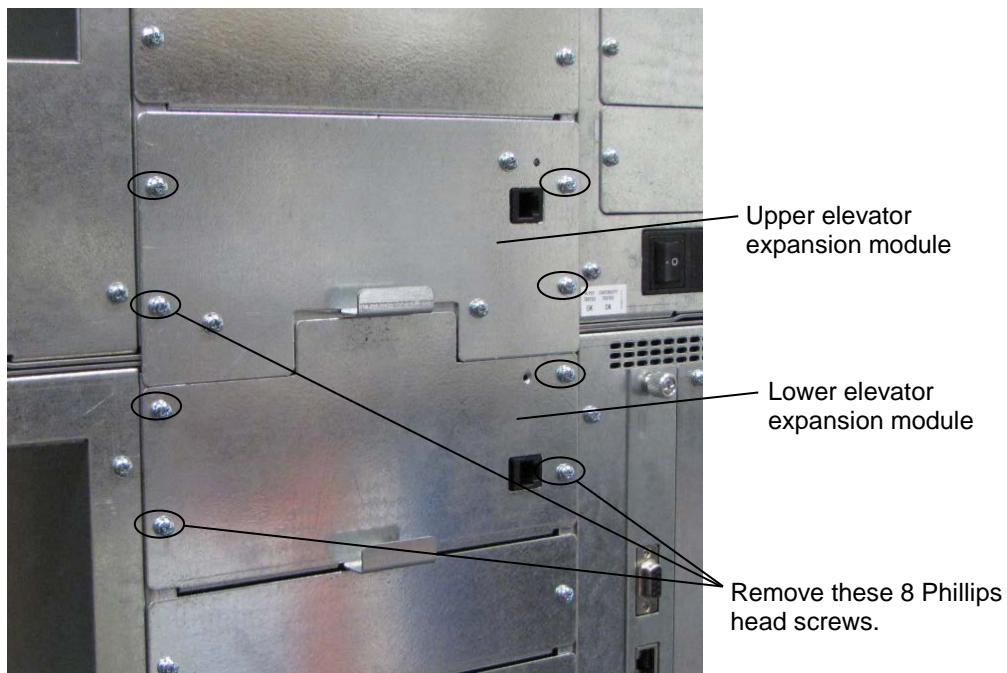

Figure 7-30 The Upper and Lower Elevator Expansion Modules into the Library
4. Use a Number 2 Phillips screwdriver to remove the eight screws that secure both the upper and lower elevator expansion units. See Figure 7-30.